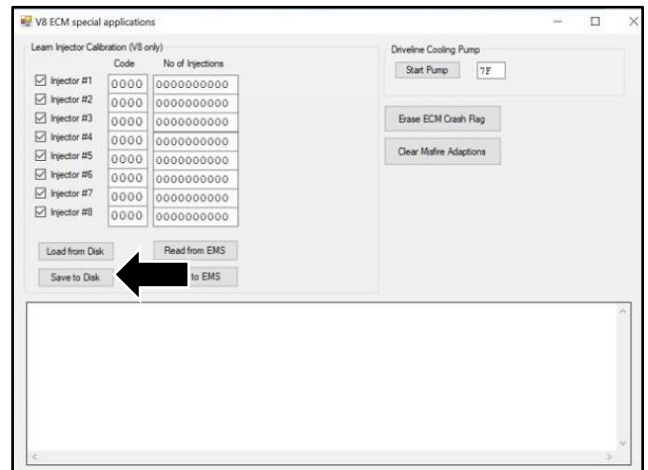

Figure 4
9. Select "Save to Disk" to store the injector coding (refer to Figure 4).